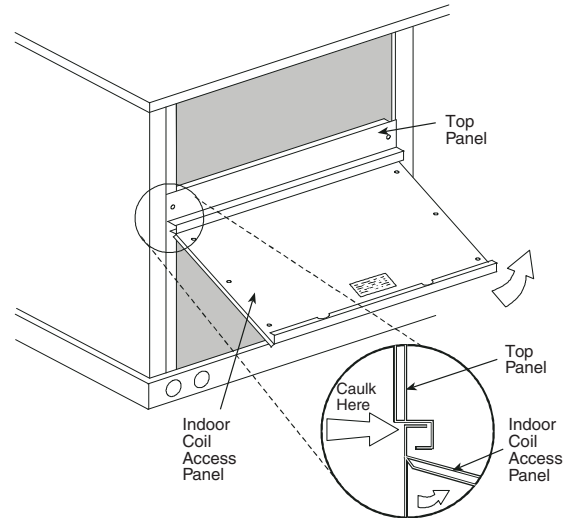

Fig. 11 — Indoor Coil Access Panel Relocation
1. The indoor coil access panel will be used as the top of the hood. Remove the screws along the sides and bottom of the indoor coil access panel. (See Fig. 11.)